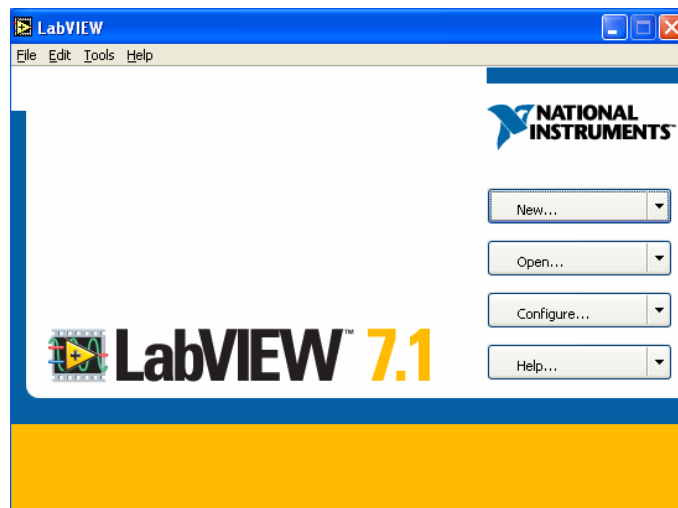
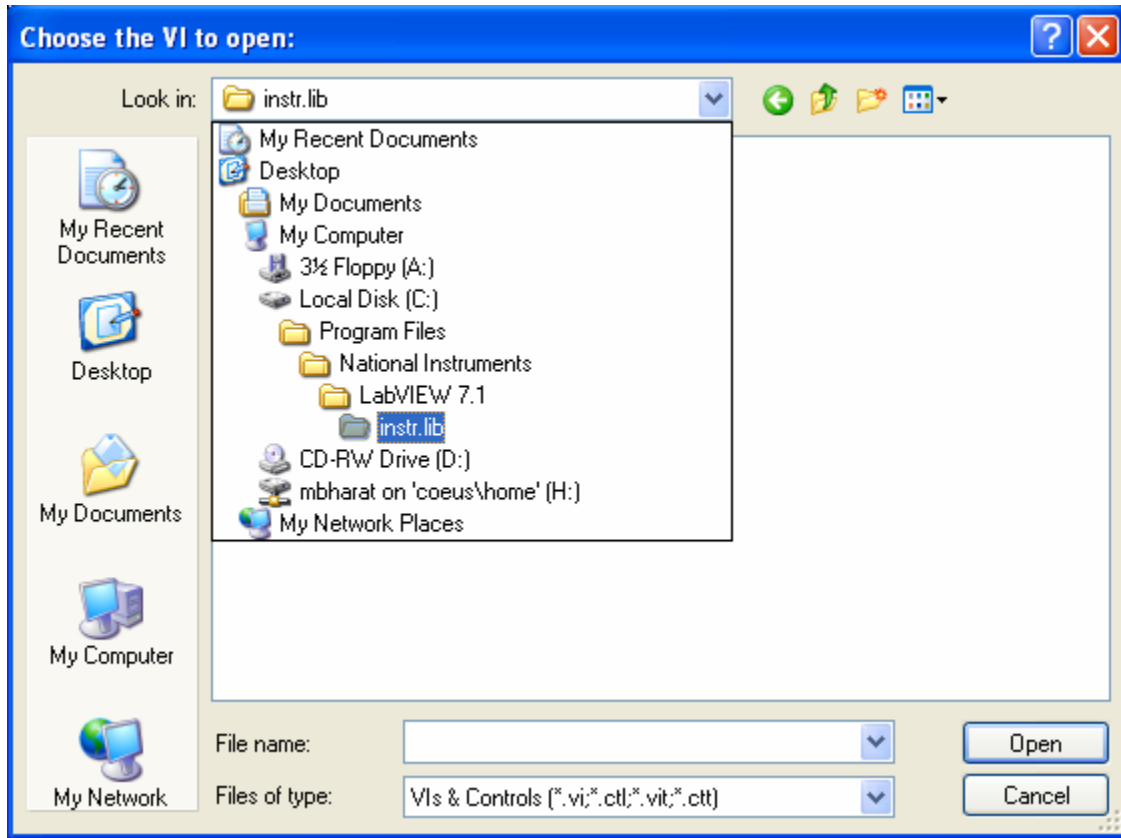
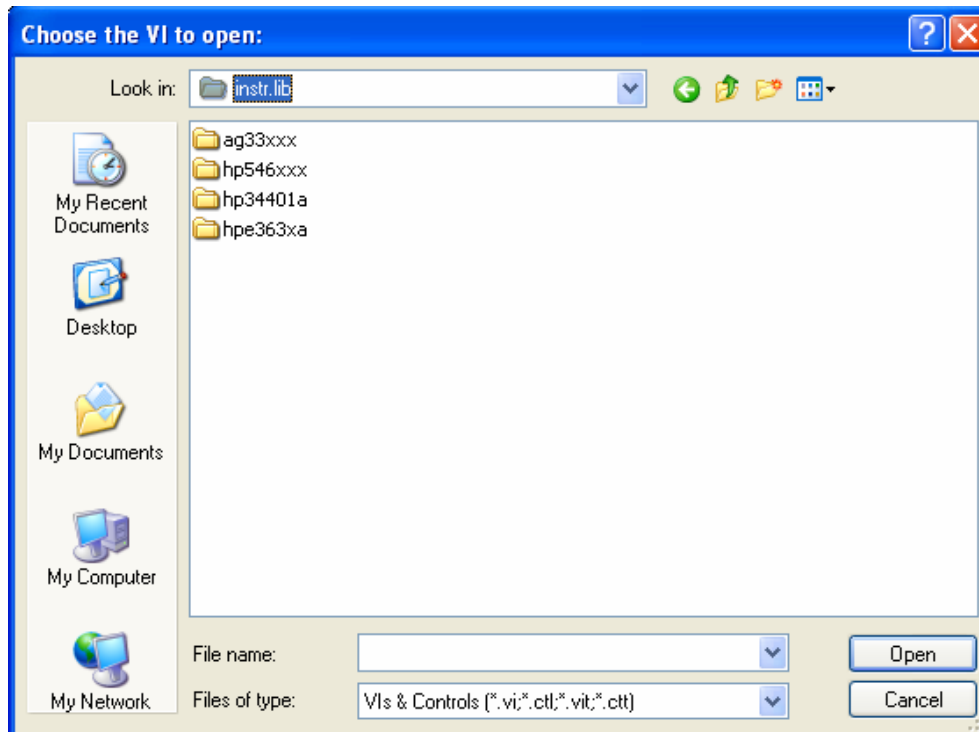

Figure 7. LabVIEW is ready for use
Figure 8. The instrument VIs are in C:\Program Files\National Instruments\LabVIEW 7.1\instr.lib
Figure 9. LabVIEW Instrument VI folders are listed by part number; these numbers are on the front panel of the instrument.
1. Click the *Open* drop down box in figure 7. You should see figure 8.
Navigate to the instr.lib directory as shown in figure 8. Figure 9 shows the instruments installed.